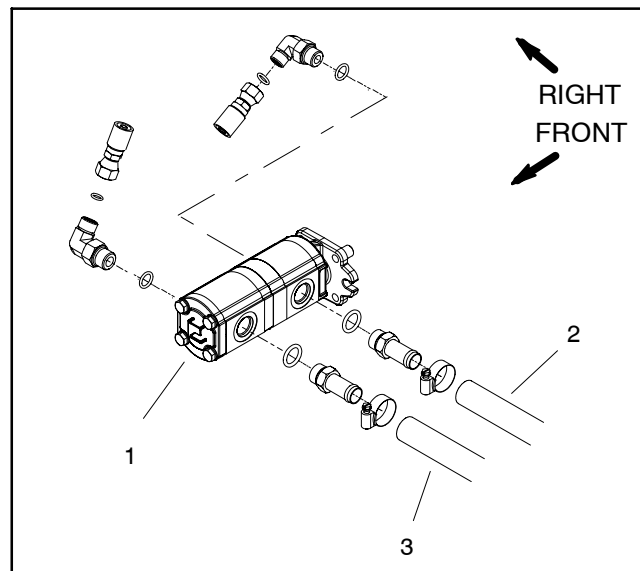

Figure 32
3. The High Flow Kit gear pump supplies oil flow for two circuits and uses two separate reservoirs and oil types (Fig. 32). The front pump section (closest to pump input shaft) uses oil from the transaxle (Dexron III ATF). The rear pump section uses oil from the High Flow Hydraulics Kit reservoir (hydraulic oil). During gear pump assembly, lubricate front section components with clean Dexron III ATF and rear section components with clean hydraulic oil.